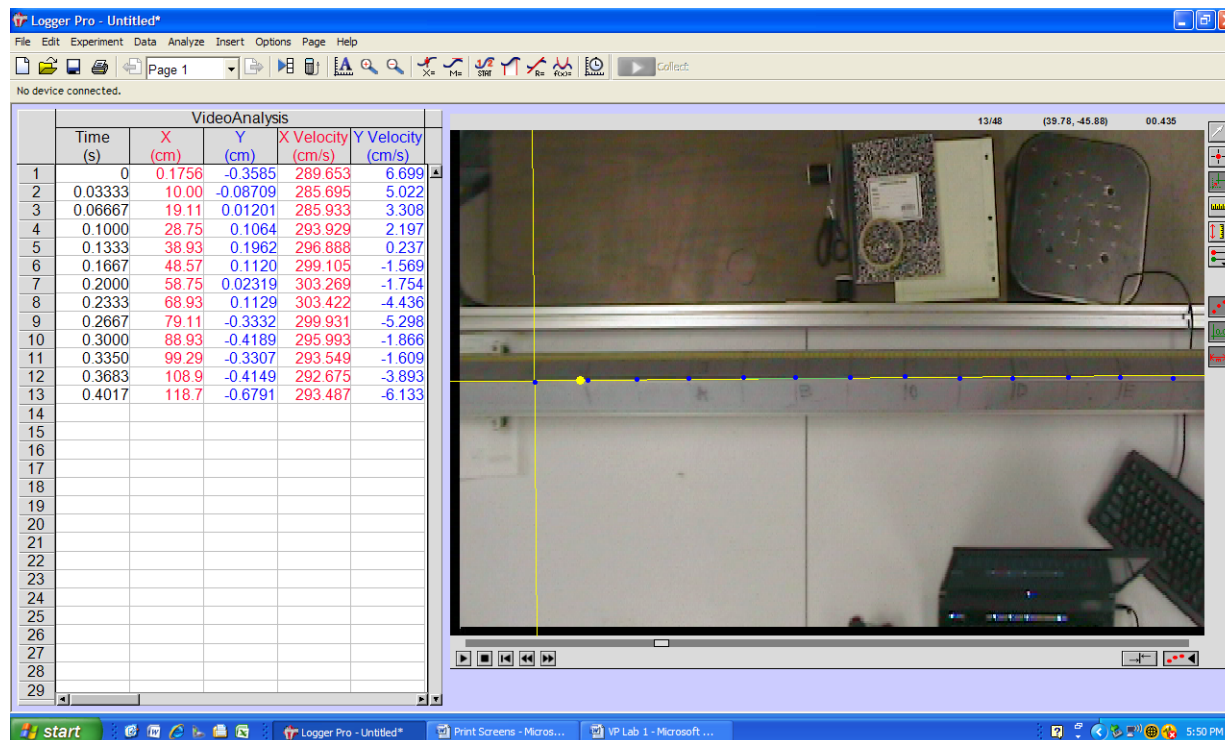

Figure 4
- Use the *Set Scale* function and select two pencil marks on the air track as your distance. Next, use the *Add Point* function and select at least 10 points on the air track using the pencil marks. Now *Set Origin* and drag the origin of your coordinate axes to the first point you selected, and if necessary, rotate the axes so that your x-axis aligns with the sequence of points. As you rotate your axes, your position data in the spreadsheet should recalculate. Your LoggerPro sheet should look similar to Figure 4. Export your data to a text file and save the text file in your section folder. Remember to either save this text file to a USB flash drive or email this text file to yourself when you are finished with the lab. It is also good practice to save your movies and spreadsheets as a LoggerPro *.cmbl file. This prevents you from having to record your videos again in the event your text data file is not correct. The movies are saved in the *.cmbl file as well as the data, so if you find later when analyzing your data while writing your TM that your text file is incorrect, you can retrieve your movies and original data in the *.cmbl file(s) that you just saved, as opposed to re-recording all your videos.